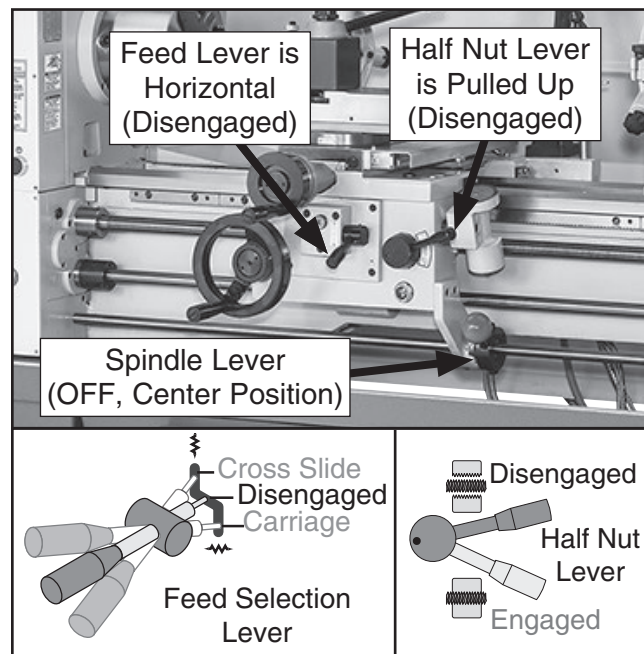

Figure 27. Disengaging carriage components.
5. Make sure spindle lever is in OFF (middle) position (see **Figure 27**) to prevent unexpected startup when power is enabled.
6. To ensure carriage components do not unexpectedly move during the following steps, disengage half nut lever and feed selection lever (see **Figure 27**). Rotate carriage and cross slide handwheels back and forth while moving levers to verify they are disengaged. When disengaged, handwheels will turn with ease.
8. Push power button, then move spindle lever (see **Figure 27**) down to start spindle. The top of the chuck should turn down and toward front of lathe.